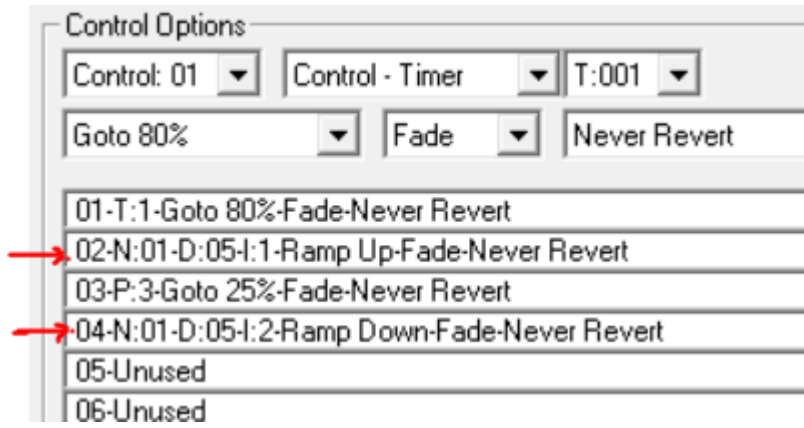

Figure 5
- Dimmer control will take the first two available control lines for mapping the Ramp Up and Ramp Down functions. Without overwriting existing operations. See Figure 5